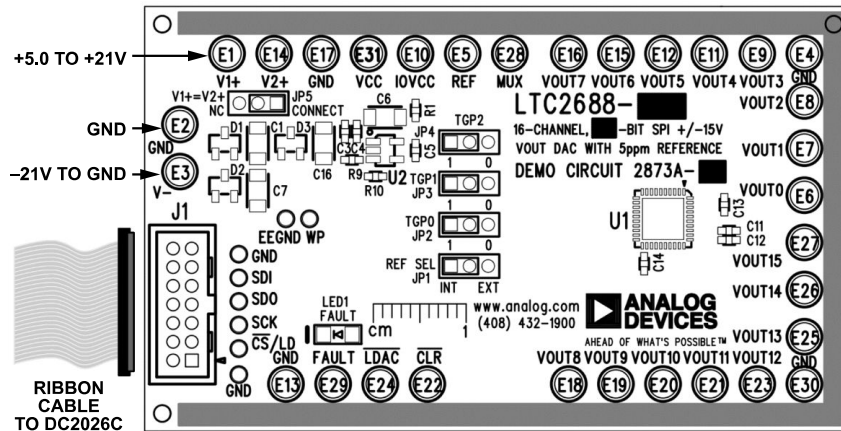

Figure 2. DC2873A-B Hardware Connections
The DC2873A-B requires the power connections and connection to the DC2026C controller board shown in Figure 2. The ribbon cable provided in the evaluation kit connects the DC2873A-B and the DC2026C via the J1 connector. Turrets are provided to connect the DC2873A-B to the power supplies.
1. Connect the DC2026C to the DC2873A-B via the J1 connectors with the ribbon cable provided (see Figure 2).